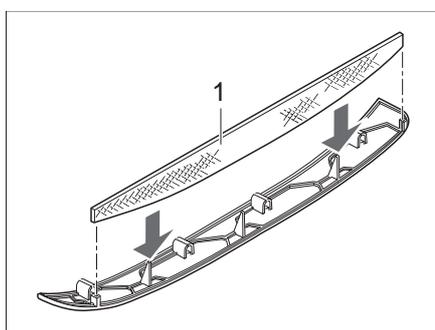
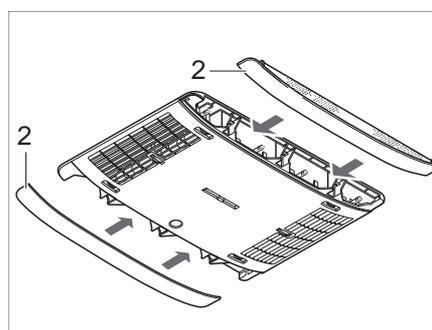

Fig. 174 Lint filter air conditioning unit
Fig. 175 Air conditioning unit panels
Two lint filters are located in the side panels (Fig. 175,2). The lint filters must be cleaned at regular intervals, at least every 6 months however, and replaced if necessary.
- Remove the panels (Fig. 175,2) from the air distribution unit and clean the lint filter (Fig. 174,1) or replace it if necessary.